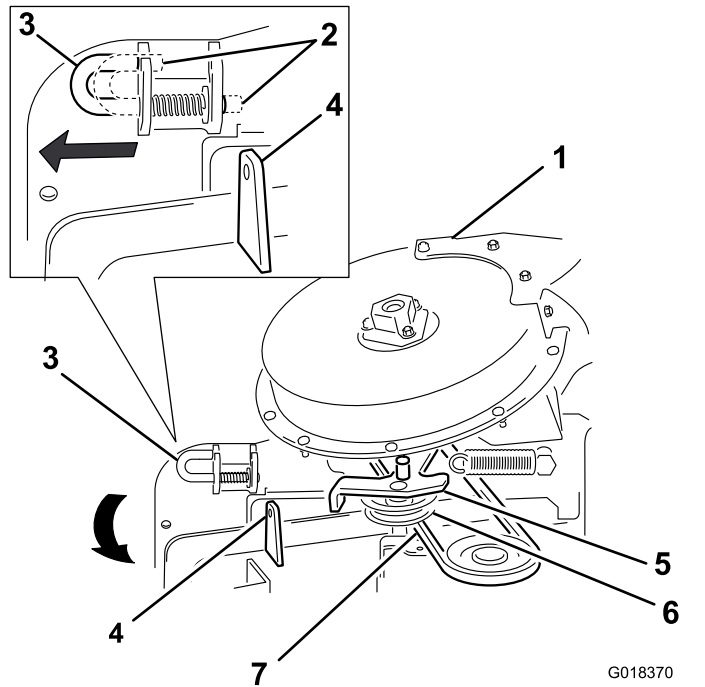

**Figure 38**
- Arrange the blower belt around the blower pulley (**Figure 38**).